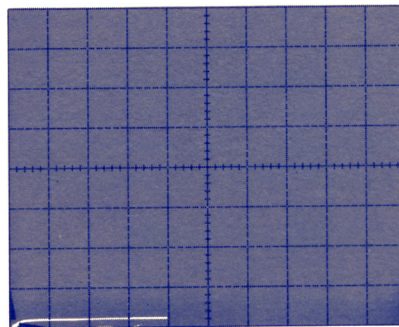

Figure 1-1. Display of zero gate voltage drain current I_{DSS} .
- 3) Compare to specifications — Check to see if vertical displacement indicates specified current. [more than 1/5 divs or 1 mA, and less than 4 divs, or 20 mA]. If necessary, increase vertical sensitivity to read low currents. See Figure 1-1.